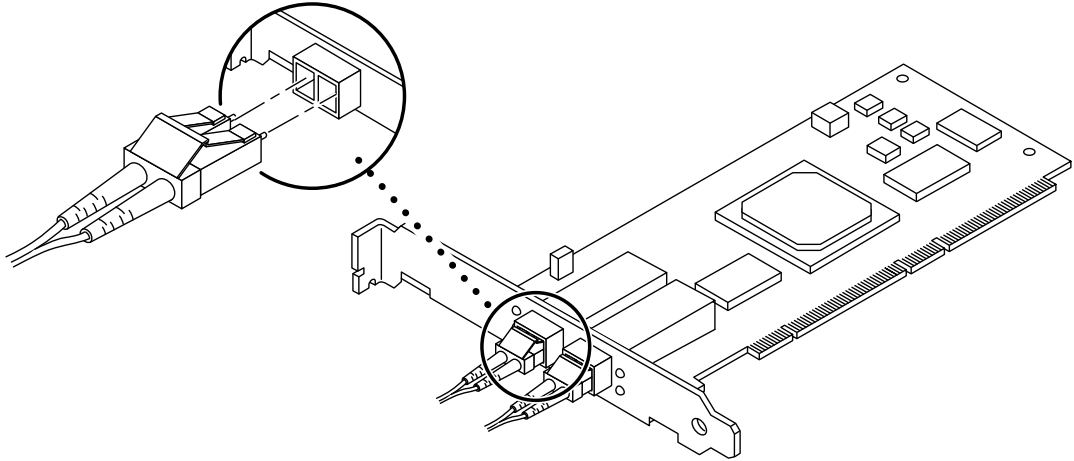

FIGURE 1-4 Connecting a Fiber Optic Cable to an OT Connector
5. **Push the fiber optic cable connector into the OT connector until you hear a click (FIGURE 1-4).**
Caution – Fiber optic cables have keyed connectors; they can only be inserted into OT connectors as shown in FIGURE 1-4.